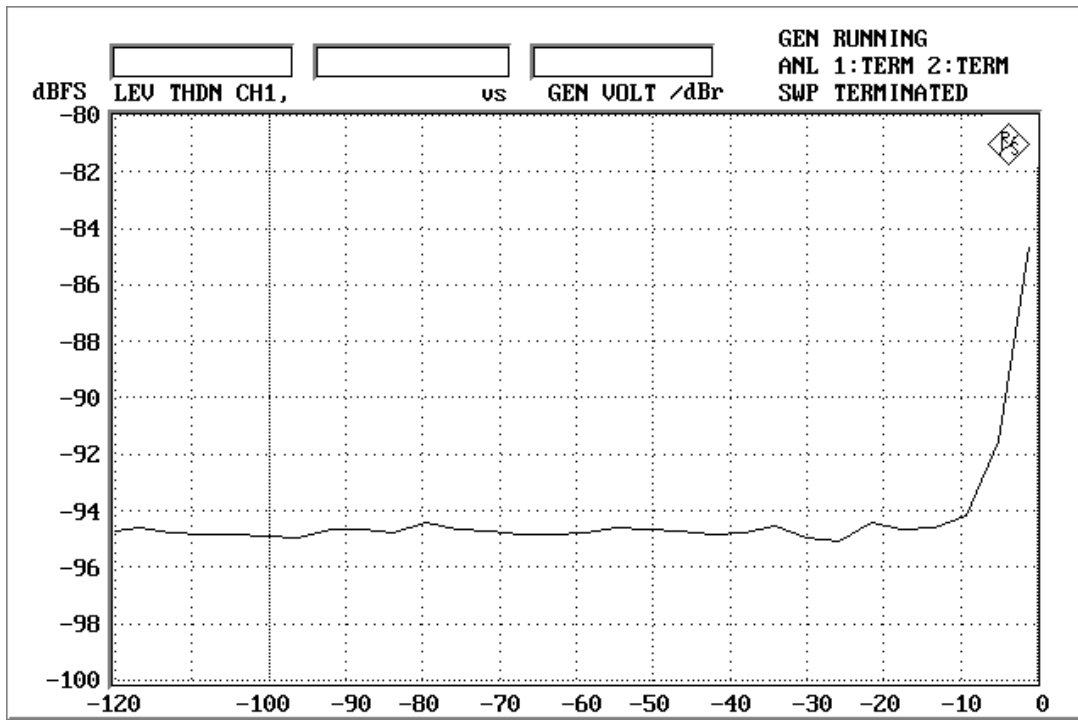

Figure 10. THD+N vs Input Level (fs=96kHz; fin=1kHz)
- Figure 10. THD+N vs Input Level (fin=1kHz)